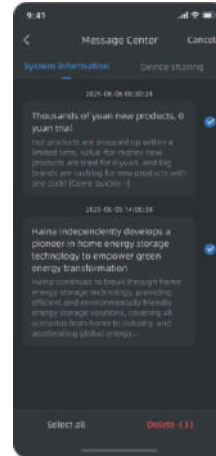

Figure 2
2) Figure 2: Click on **"Delete"** in the upper right corner to select some or all messages for deletion.